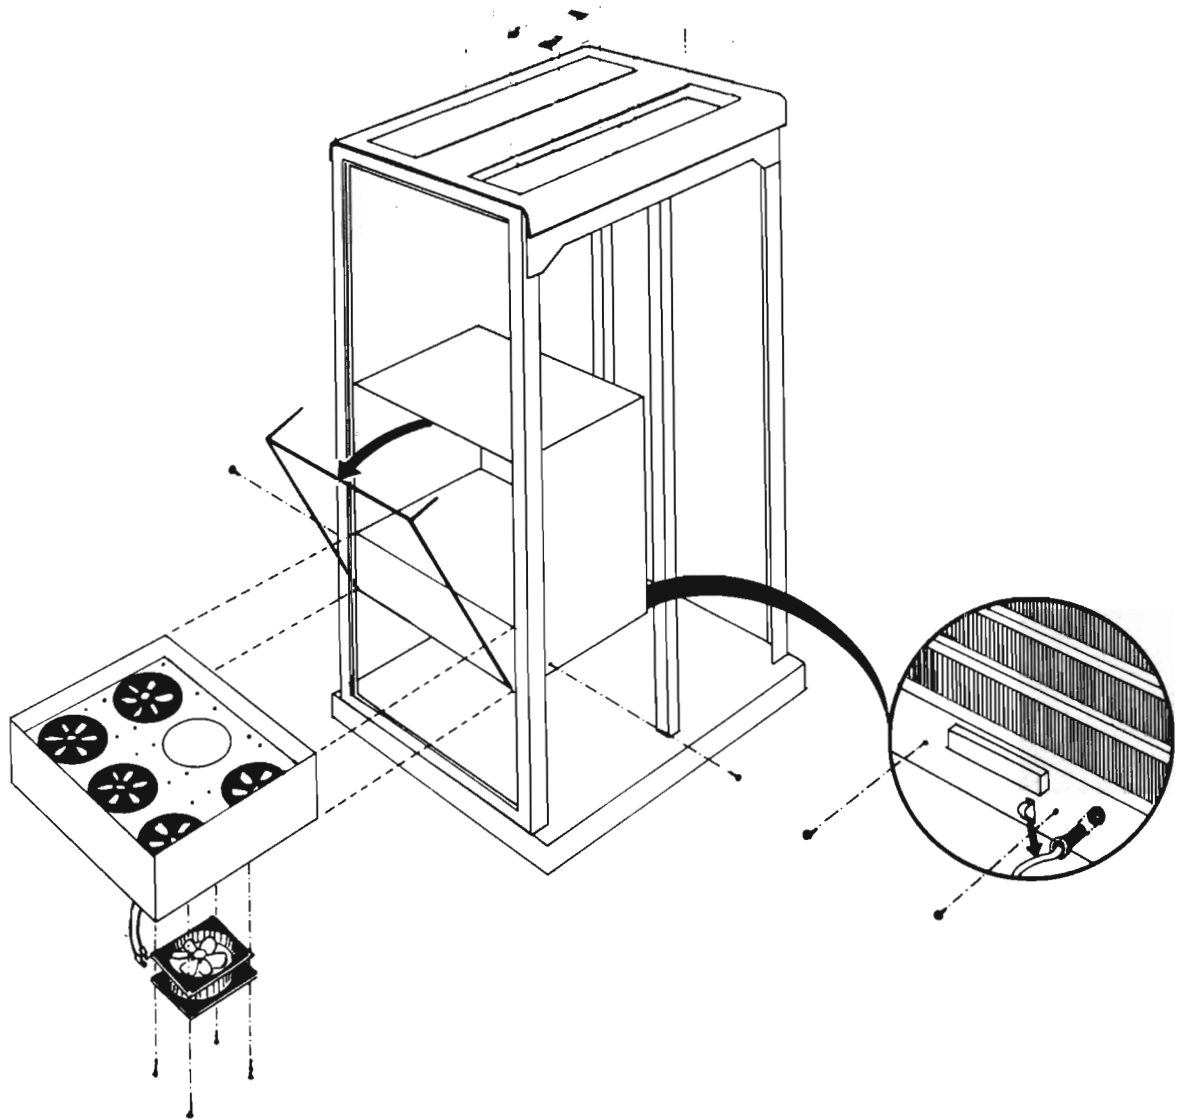

Figure 28. Removing the Card-Crate Fans
2. Disconnect the power cable from the back of the fan assembly. Hold under the fan assembly with one hand and unfasten the four screws holding it (see fig. 28).